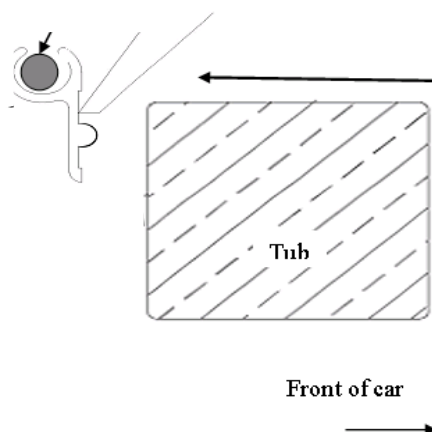

Figure 1: Placement of aluminium rope track. Ensure channel is above the tub's top edge.
2. Rest the aluminium rope track on the side rails as Shown in Figure 1, and push forward to the vertical face of the tub (2).